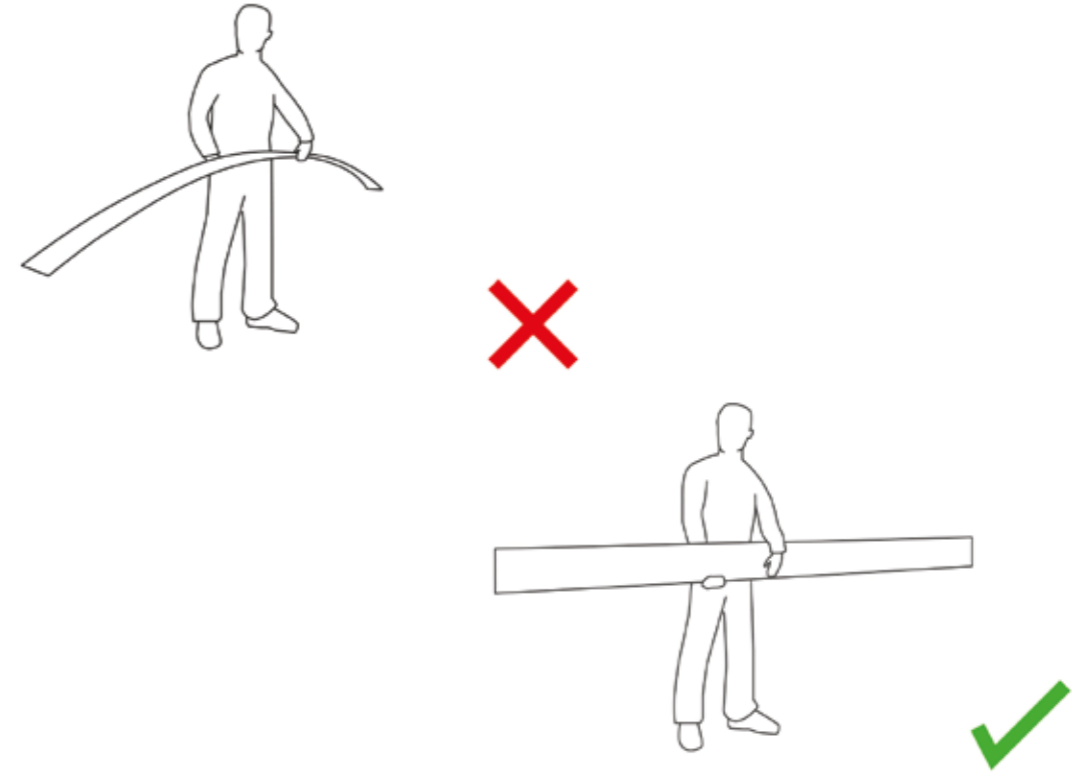

fig.8 – When carrying planks, wear gloves & hold in the middle, on its edge
- When carrying planks, it is recommended to wear gloves. Turn the planks onto their side/ hold by the edge (see fig. 8)